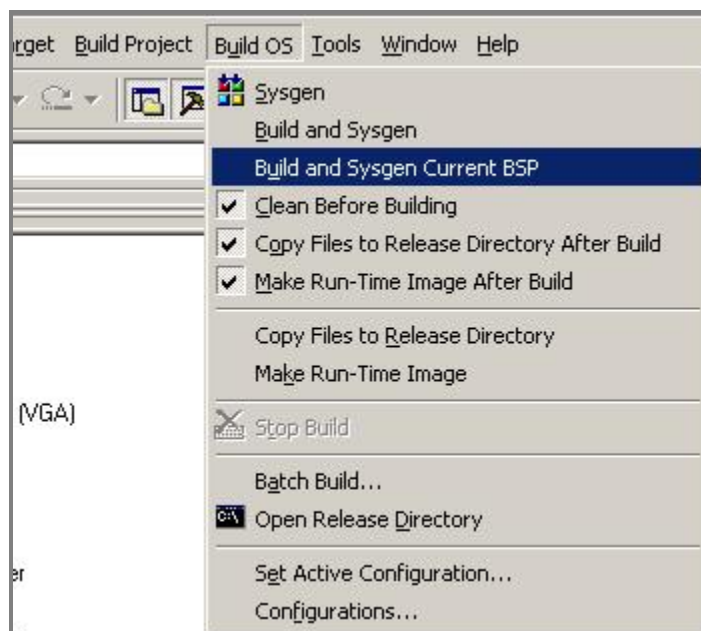

Figure 4-4 Build and Sysgen a Clean OS Image
5. Select **Build OS > Build and Sysgen Current BSP** to perform a clean build of the BSP platform directory and complete the creation of an OS image (Figure 4-4).